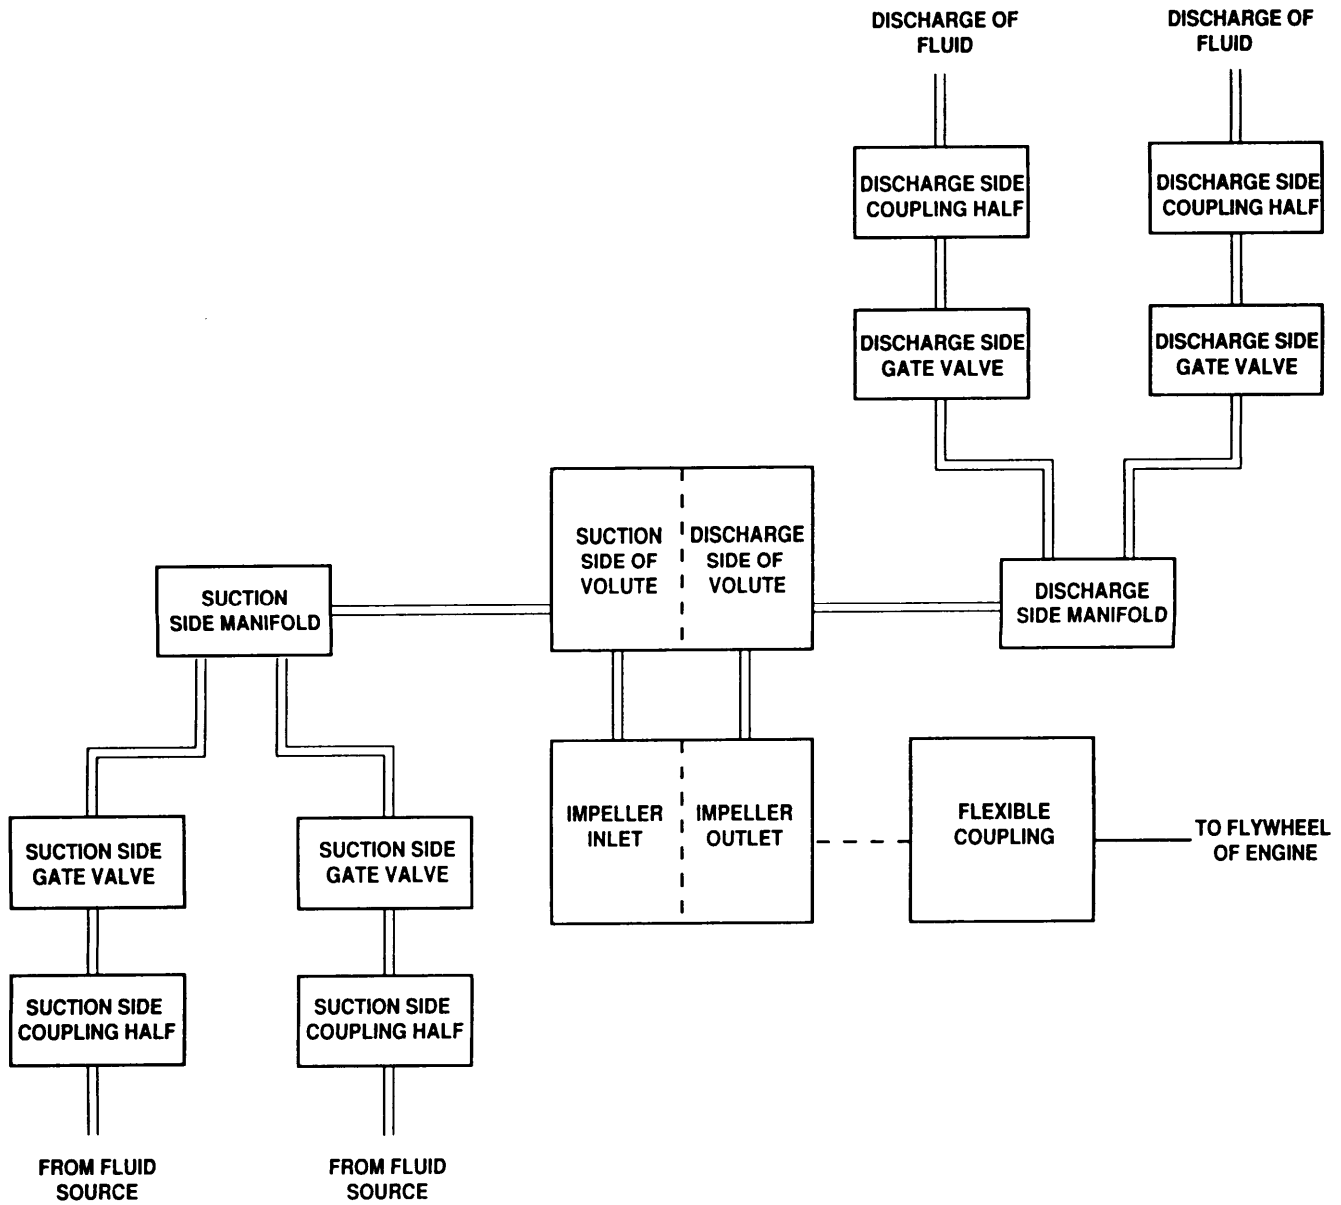

Figure 1-11. Pump Assembly Functional Block Diagram.
**1.14.2.8 Pump Assembly.** The pump assembly transfers fluid from one point to another point. Figure 1-11 is a functional diagram of the pump assembly. The fluid is brought into the 350 GPM pump via the suction section. The suction section provides two suction inputs. Each suction input has a valve that controls the size of opening to the suction side of the pump. In addition, each suction input has a coupling half to connect to the fluid source. Both suction inputs are connected to the suction manifold. The suction manifold is connected to the suction side of the volute. The suction section consists of two coupling halves, two gate valves, and the suction manifold.